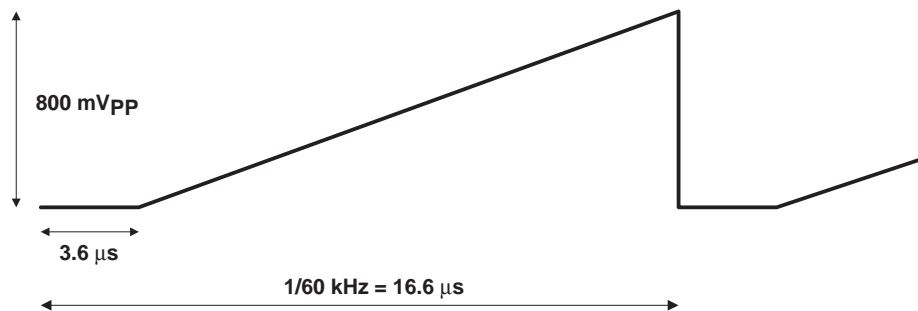

Figure 5–1. Input Test Waveform
- Identical ac-coupled 0.8 Vpp ramp-shape input on all 3 channels at 60.0-kHz line rate, as shown in Figure 5–1
- SYSTEM_INTREF, with an input signal other than the ramp-shape input test waveform of Figure 5–1.
- Identical ac-coupled, 0.8 Vpp ramp-shape input on all three channels at 60.0-kHz line rate, as shown in Figure 5–1